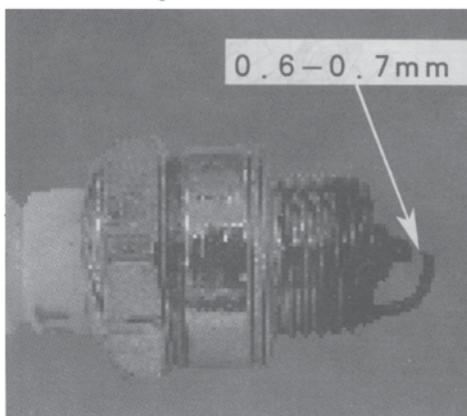

Fig 16
(2) Fuel system maintenance
(3) Air filter and plug.
d. The plug model of this machine is 4106J. Do not use other models. If it is necessary for change, may buy it from local agricultural department or plant protection department, as shown in Fig. 16.